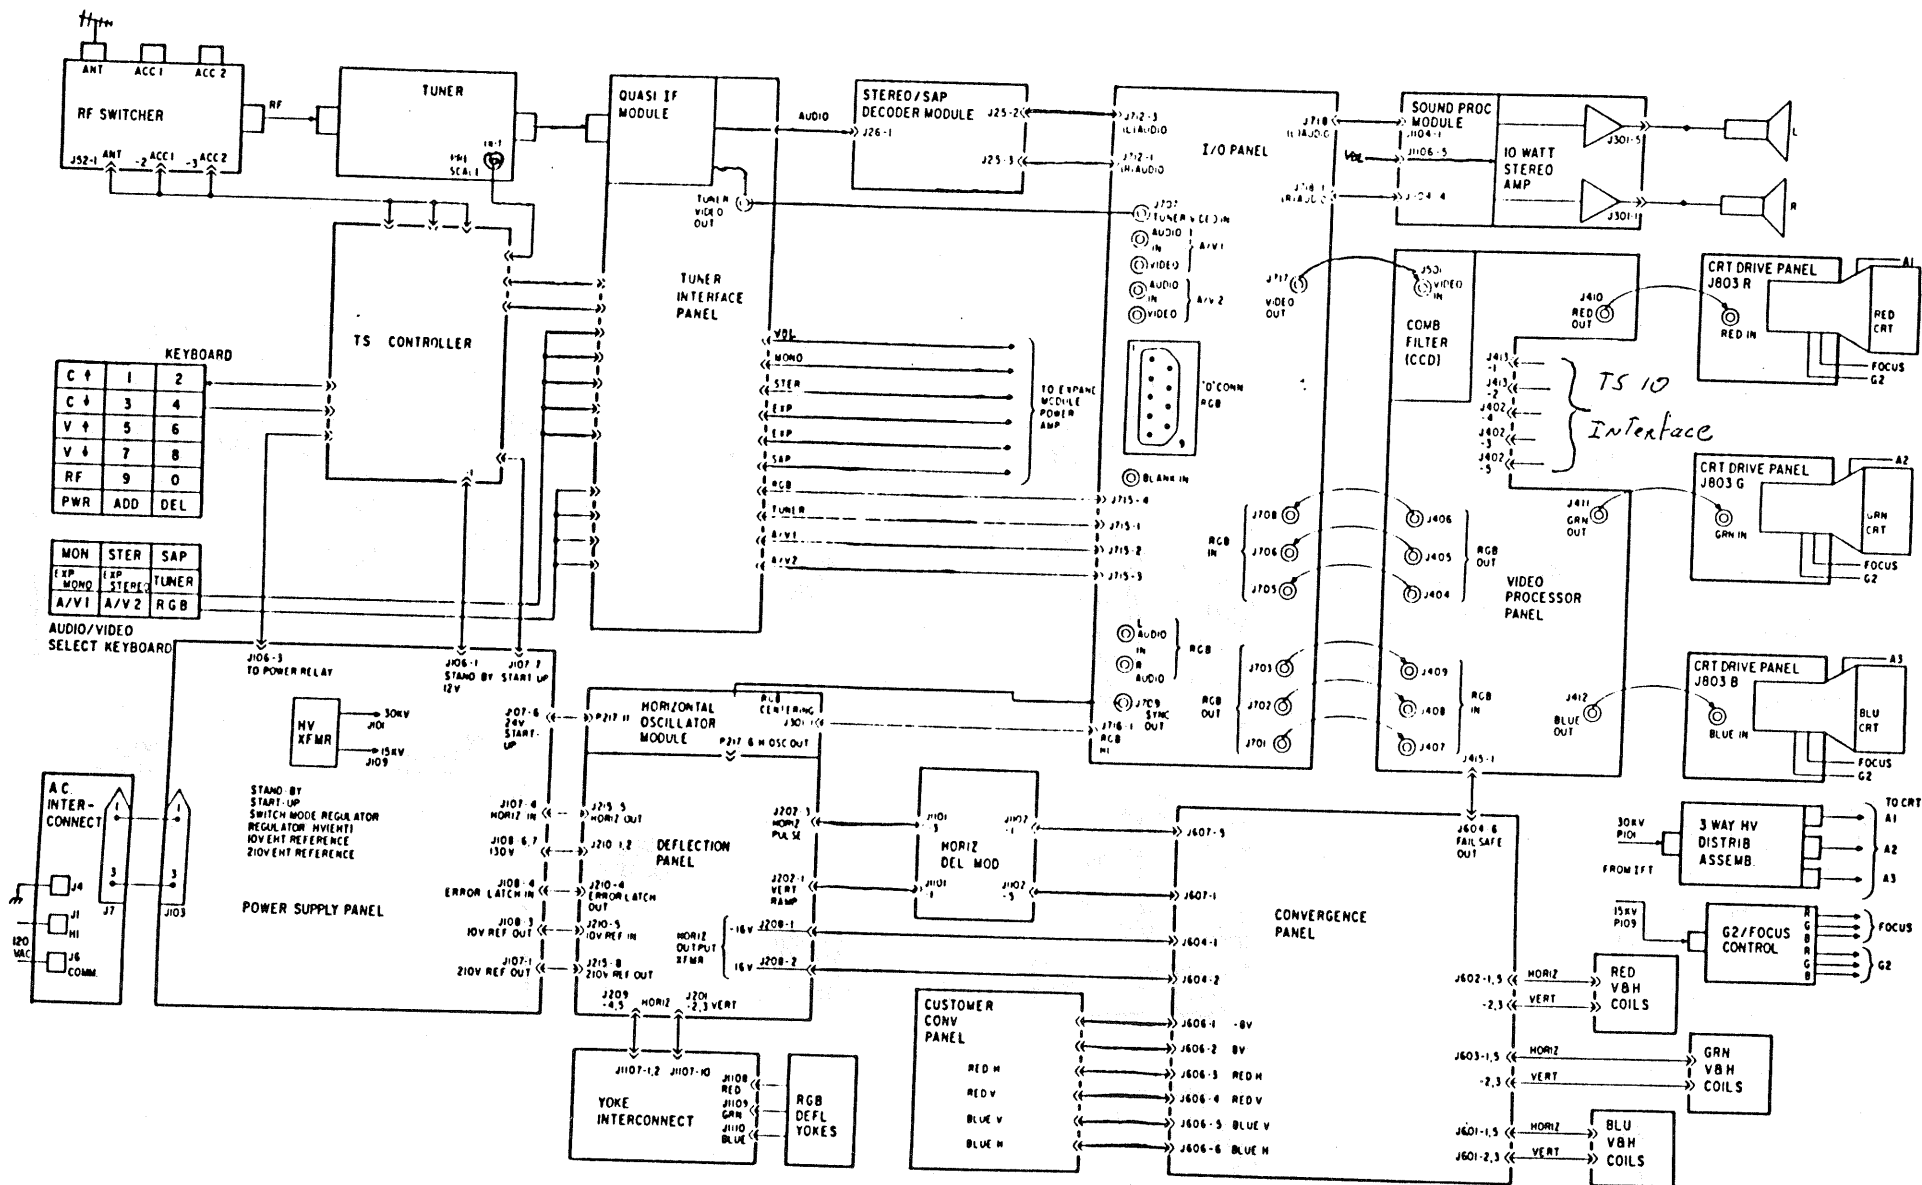

Figure 2 - Signal Flow Block Diagram
**Figure 2** shows the Panel and module functions, interconnect cables, plugs, and jacks. The heavier lines identify the signal flow from the RF Switcher to the Stereo Speaker terminals and the Red, Green and Blue CRTs. Switching signals, control voltages, and other operational voltages are shown with lighter lines.